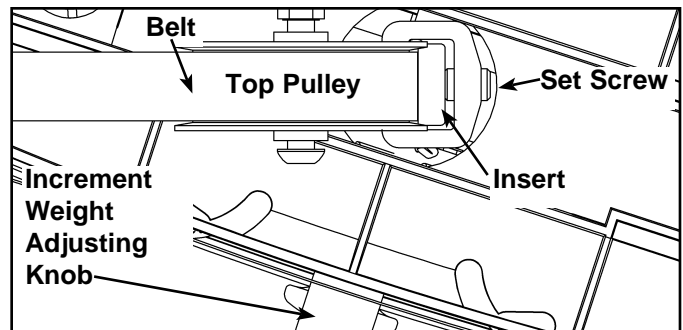

Figure 7
C. Verify the belt clamp on the top weight is positioned properly with the top pulley. **NOTE:** The belt must have a straight path from the pulley to the belt clamp. See Figure 7. **NOTE:** Figure 7 shows the top view, looking from the top pulley down to the top plate.